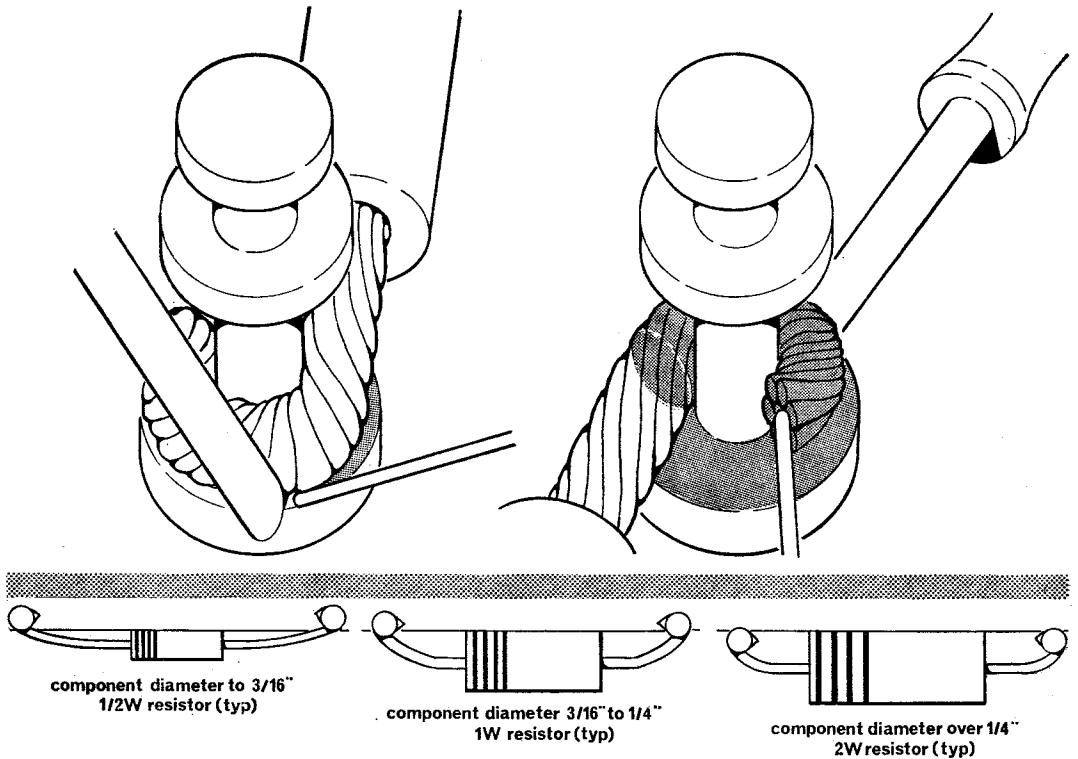

Fig. 3 Turret posts
17. **Connection of components between turret posts.** The components shall be mounted with colour coding, rating and other data clearly visible and unless polarized should read from the left to the right consistent with printed identification marks. Where there is any risk of shorting or grounding, the component leads are covered with insulated tubing (sleeves). Component leads shall be preformed and must not be bent closer than one sixteenth of an inch to the component body, the minimum radius of bend is three times the lead diameter. Expansion radii are slight curves which must be formed in the leads to prevent stress during thermal expansion and contraction (see figure 3).